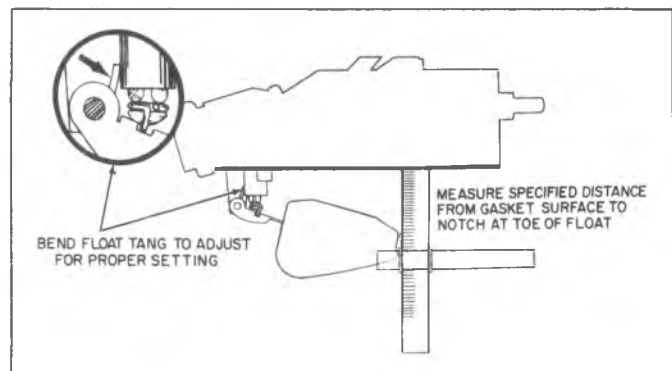

Fig. G10--Float Drop Adjustment (Nitrophyl)
2. With air horn right-side up so that float can hang free, measure the distance from the lip at toe of float to air horn gasket. Adjust float drop to specifications by bending the tang at the rear of the float arm which rests against the needle seat. (Figure G10).